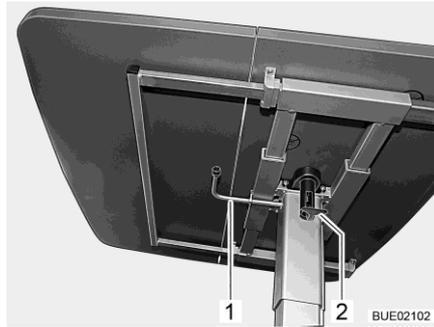

Fig. 129 Lift-off table
- Fold down the catch lever (Fig. 129,2).
- Swivel the lever (Fig. 129,1) underneath the table top by 180° in a clockwise direction. The lifting mechanism in the table leg is unlocked.
- Swivel the lever (Fig. 129,1) underneath the table top by 180° in a clockwise direction. The table top moves automatically upwards to the limit stop.